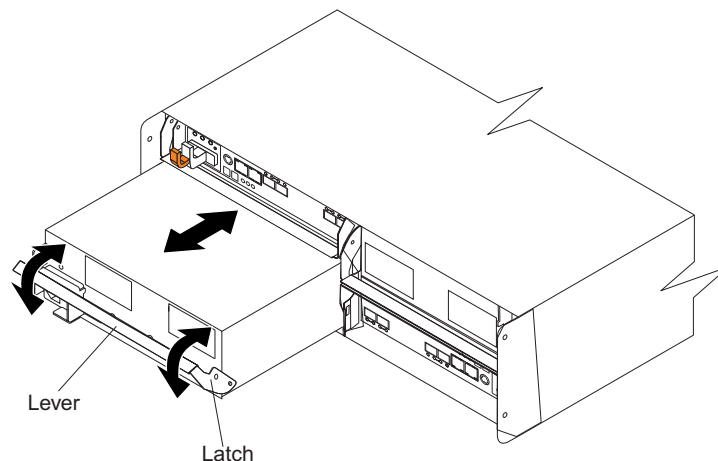

Figure 21. Replacing a power supply and fan unit
1. Slide one power supply and fan unit into the storage subsystem. Be sure to replace the power supply and fan units so that the lever on each power supply and fan unit opens toward the interior of the storage subsystem, as shown in Figure 21. Do not force fit. The power supply and fan unit is designed to prevent it from being inserted into the chassis incorrectly.
**Attention:** Be sure that the lever is pulled straight out as you slide the power supply and fan unit into the storage subsystem, as shown in Figure 21. The left and right power supply and fan units are seated in the DS3950 chassis in opposite orientations. If you cannot fully insert the power supply and fan unit into the power supply and fan unit bay, flip it 180° and reinsert it.